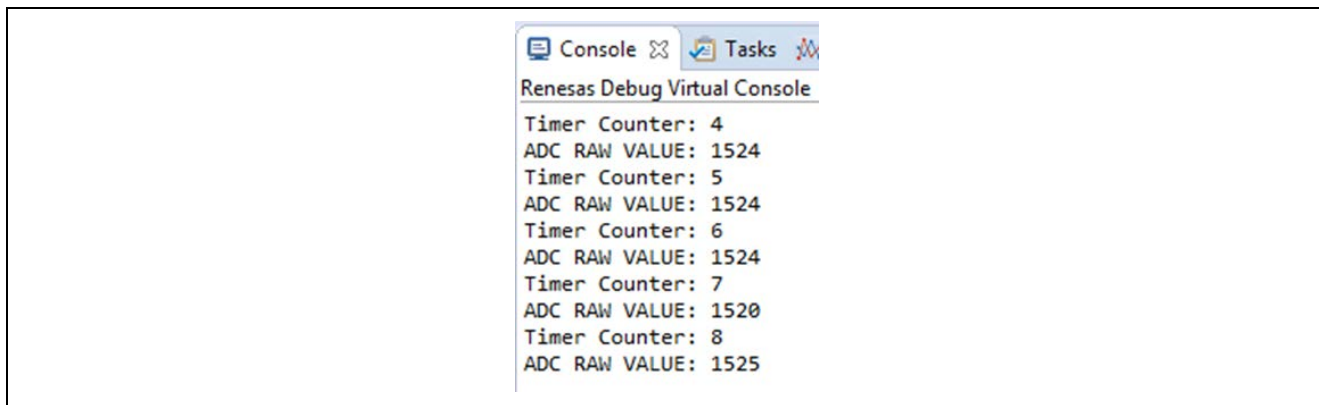

Figure 5. Example Output from the DTC HAL Module Application Project
8. The output can be viewed on the Renesas Virtual Debug Console (see Figure 5), or by adding variable expressions to the watch view.